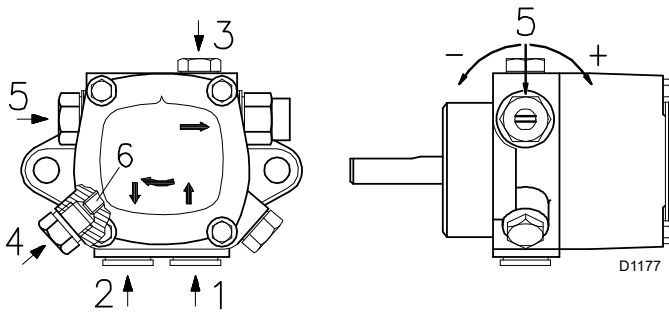
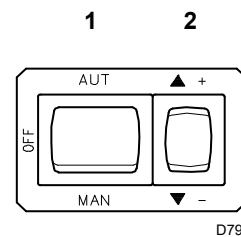

Fig. 26
Fig. 27
Key (Fig. 26)
- In order for self-priming to take place the screw 3) (Fig. 26) of the pump (Fig. 26) must be loosened in order to bleed off the air contained in the suction line.
- Start the burner by closing the control devices, with the switch 1)(Fig. 27) in "MAN" position and switch 10)(Fig. 7) in "OIL" position.
- The pump can be considered primed when the light oil starts coming out of the screw 3)(Fig. 26). Stop the burner: set switch 1)(Fig. 27) to "OFF" and tighten the screw 3)(Fig. 26).